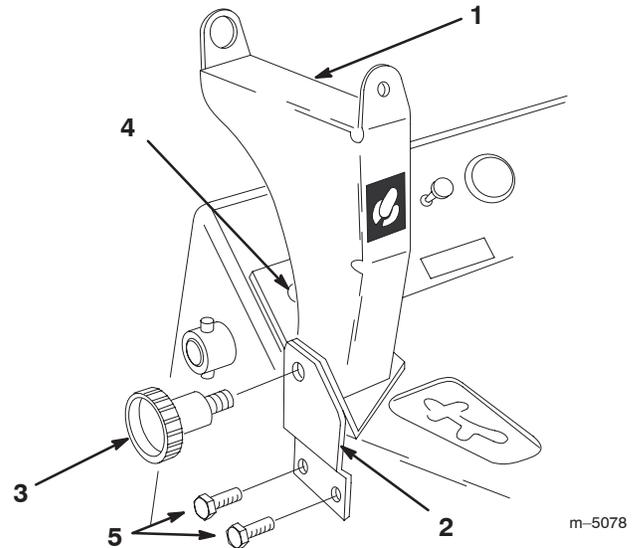

Figure 5
2. Using a knob, connect the mounting bracket to the chute control bracket (Fig. 5).
3. Align the bracket assembly on the left side of the traction unit as illustrated in Figure 5.
4. Mark the hole locations on the traction unit for the two mounting bracket holes and for the hole in the control bracket on the control panel (Fig. 5).
5. Using an 0.290 in. (size L) drill bit, drill the holes for the mounting bracket through the traction unit frame (Fig. 5).
6. Using a 3/8 in. drill bit, drill the hole for the control bracket in the control panel (Fig. 5).
7. Install the mounting bracket with the two, 5/16–18 x 3/4 in. self-tapping screws (Fig. 5)